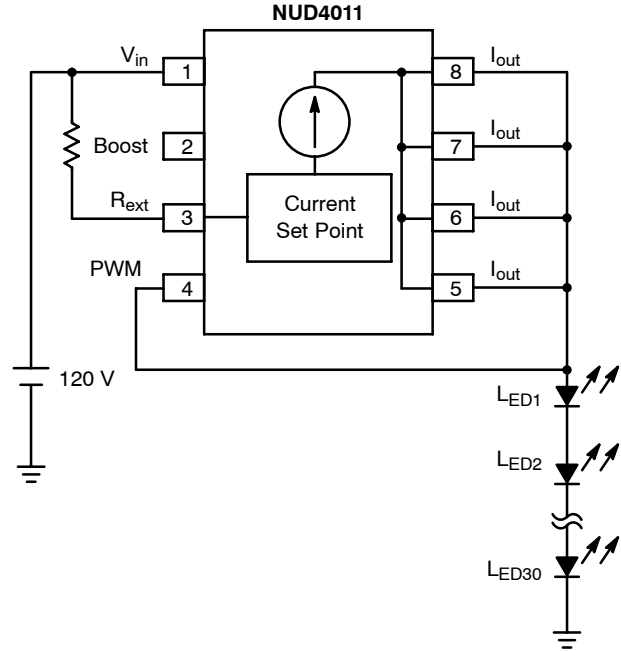

Figure 5. 120 V Application
3. Device's pin 4 connected to the LEDs array (as shown in Figure 5).
- a. Per example in Figure 5,  $V_{in} = 120 \text{ Vdc}$
4. Define  $V_{LED} @ I_{LED}$  per LED supplier's data sheet: per example in Figure 5,
- Per example in Figure 5,  $V_{in} = 120 \text{ Vac}$